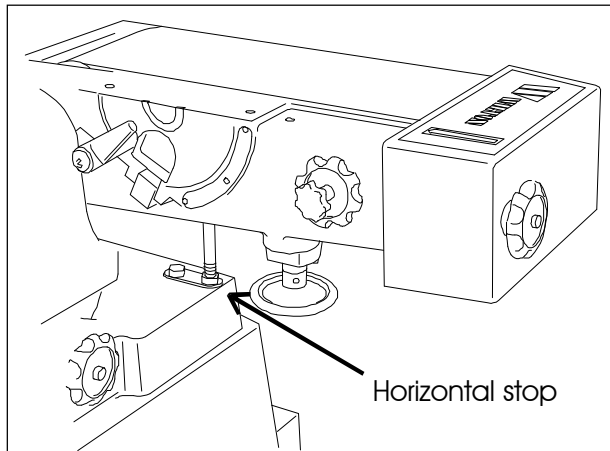

Figure 6: Arm at horizontal
2. Move the arm to horizontal until it contacts its stop. (See Figure 6.)